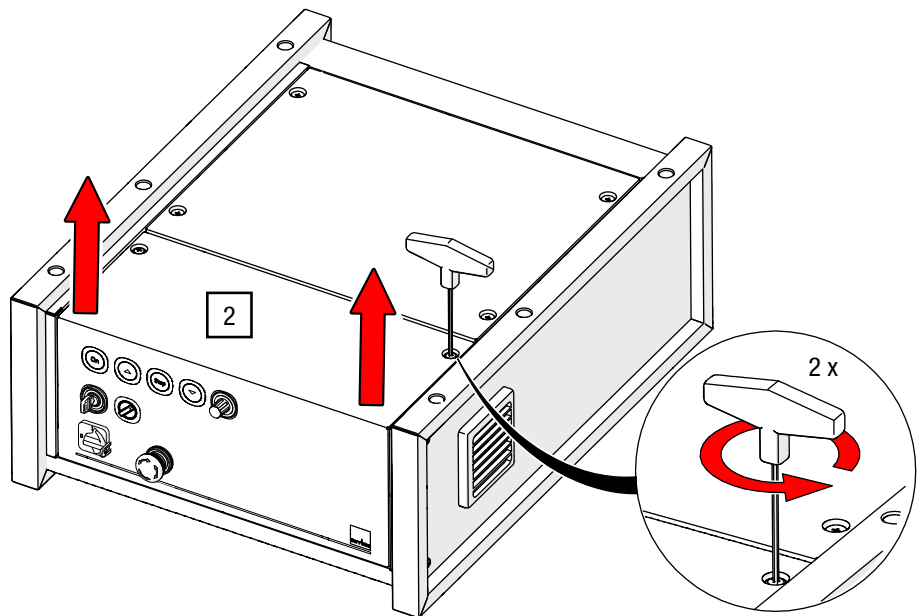

Fig. 36: G-FRAME 54 – G-FRAME 54 – loosening and lifting the control panel (model may vary)
2. Loosen the control panel screws on both sides using the HEX AF 3 key and lift the control panel off (see Fig. 36).